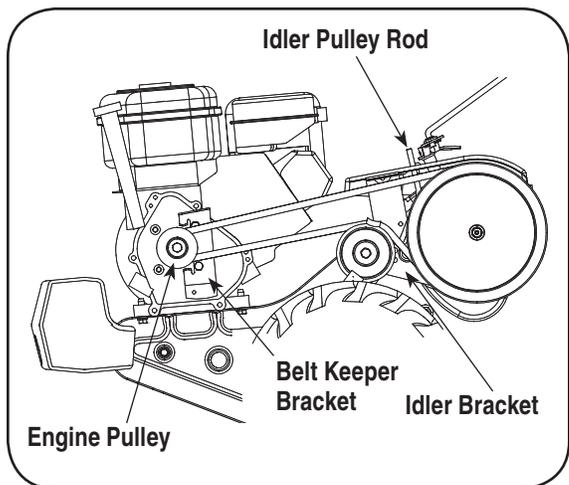

Figure 8-1
- Remove the belt keeper bracket located behind the engine pulley by removing two hex bolts and lock washers. See Figure 8-1.
**NOTE:** Upon reassembly, make certain the belt is routed over the idler pulley and inside of belt keepers by engine pulley. See Figure 8-1.